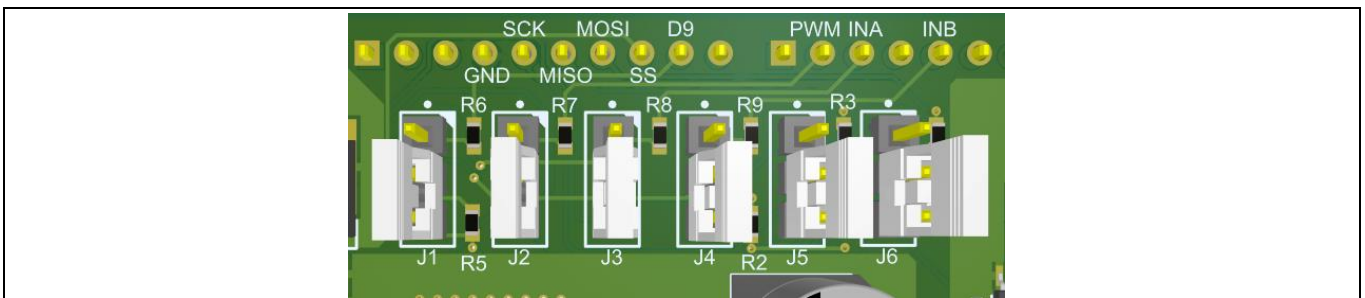

Figure 8 J1 – J6 pin header placement
2. Place J1 to J5 as shown in **Figure 8**